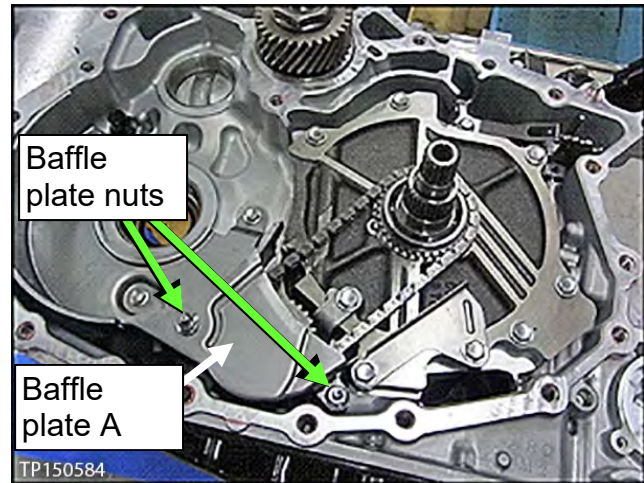

Figure 40
22. Remove the two (2) nuts from baffle plate A, and then remove baffle plate A (see Figure 40).